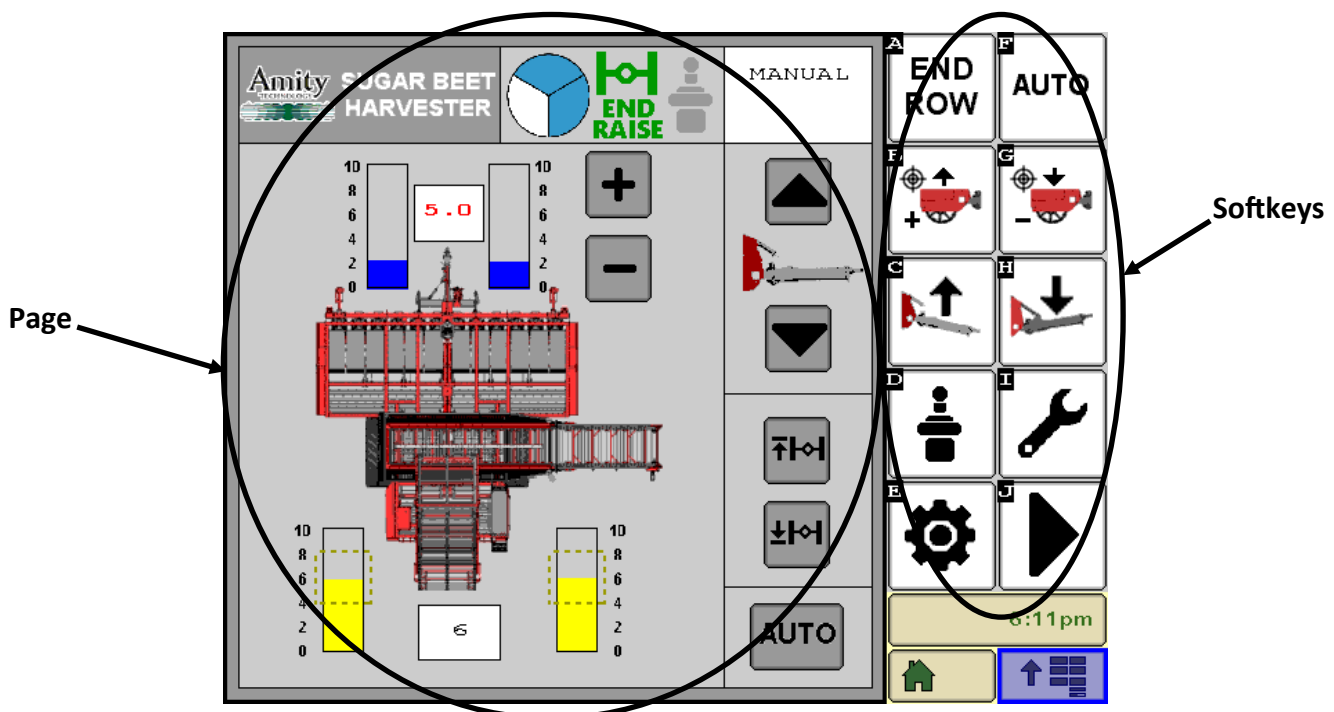

Figure 13-1: Screen Sections
- **Page:** A page is larger portion of the screen that displays the information about the system. Different pages will display different information and have different options for the user. For the definition purposes of this manual the VT will display two sections on the screen for use with the ADC system: the page and the softkeys. Figure 13-1 shows an example of the screen. Note: your screen may differ in appearance.